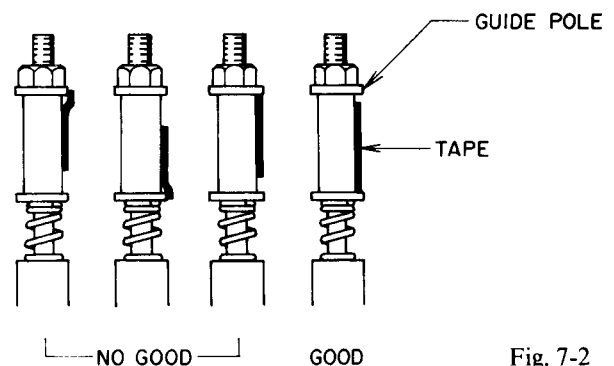

Fig. 7-2
### 7-2. SUPPLY TAPE GUIDE (L) ADJUSTMENT (Refer to Fig. 7-2)
- 2) Make adjustment with the supply guide height adjustment nut, so that the lower part of the tape will pass the lower part of the guide pole without curling as shown in Fig. 7-2.